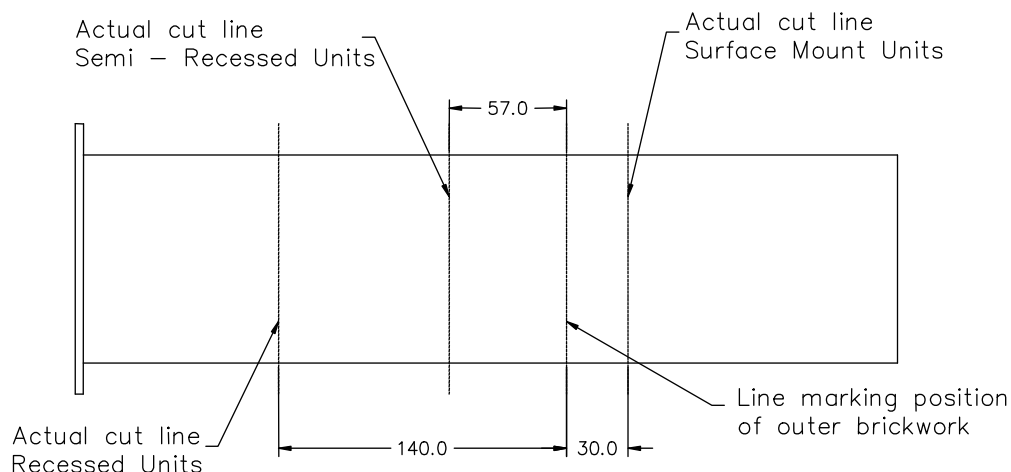

FIGURE 3
- 6 With the flue spigot fitted, place the firebox into the recess. Mark a line on the flue duct flush with the position of the outside wall. Depending on whether the fan is to be recessed, semi-recessed or surface mounted, cut the duct to length as shown on Figure 3.
- 2 Place the adapter box against the wall, ensuring it is correctly aligned with the flue spigot and mark the position of the four fixing holes on the wall (See Figures 3 & 8) Drill and plug the wall in the appropriate positions. Remove the four M5 screws at the rear of the box and retain for use later.